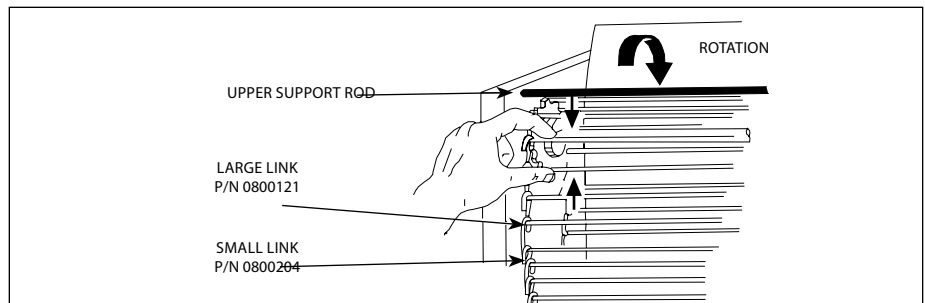

Figure 13. Removing Conveyor Belt Chain
9. Disconnect the Conveyor Belt Chain by squeezing any two links together and unhooking both ends one link (Figure 13). Needle-nose pliers may be used.
5. Disconnect the Conveyor Belt Chain by squeezing any two links together and unhooking both ends of one link (Figure 13).
**NOTE:** The ends of the hooks must point down (Figure 13).